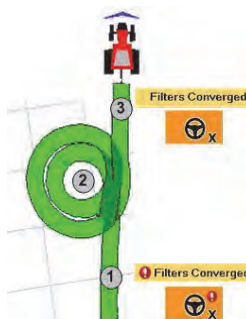

Figure 2-5: 'Manual' filter convergence driving sequence
- Two complete circles at near full lock (in either direction - the second can be the same as the first, not as shown for illustrative purposes in Figure 2-5)